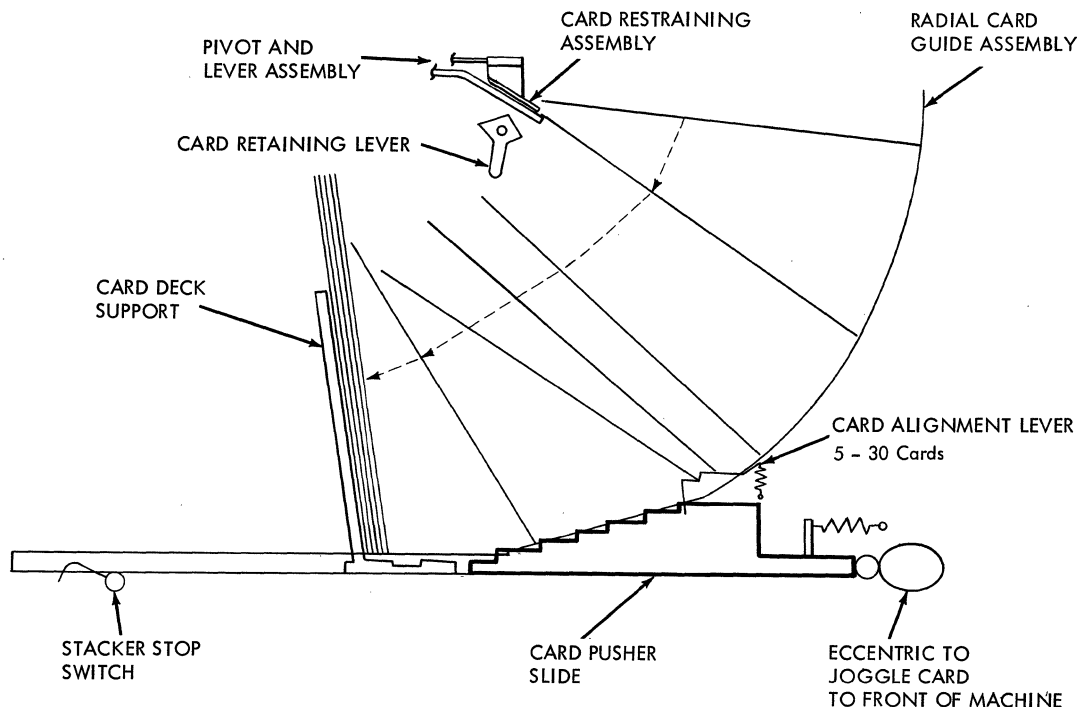

Figure 3-40. Stacker Schematic
2. Card alignment levers should hold 5 to 30 cards before cards slip onto card pusher slide. See Figure 3-40.